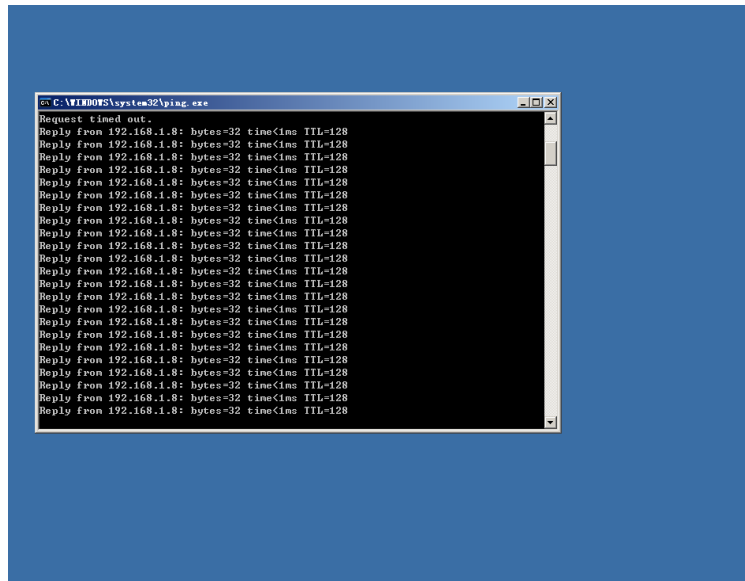

Figure 1.8
1.8 Go to “Start” then “Run” and then type in “cmd” and hit OK. A DOS screen will show up. Type “PING 192.168.1.8” and see if the PC is connected with the DSC controller. See Figure 1.8